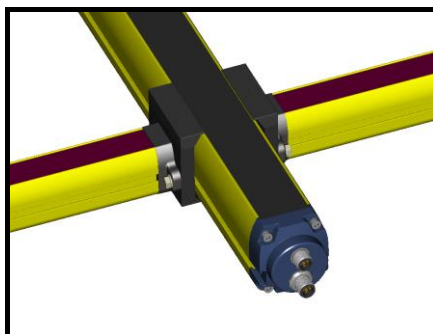

Figure 27
This fixing bracket guarantees the perfect alignment of the arms and the perpendicularity to the main unit. Position the bracket on the main unit, after having mounted the arm or arms, as shown in Figure 27.
- In critical applications due to the presence of strong vibrations, the arms have to be fixed using the specific fixing brackets (Figure 27). The Muting arms can be adjusted vertically according to the application and to the connecting cable lengths (typical range is 14 cm).